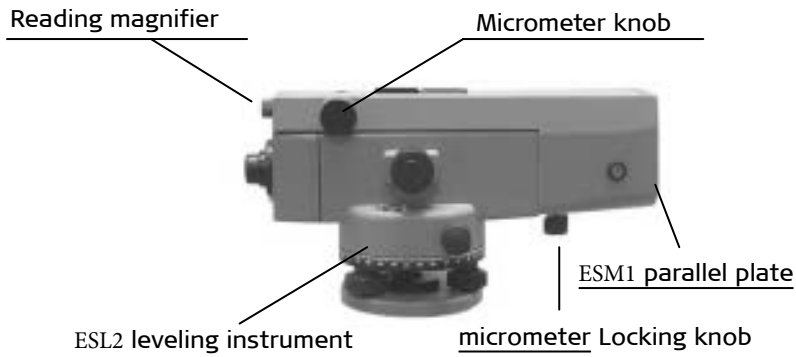

Fig.3
3. Take the nearest whole centimeter value from the graduation below the horizontal cross hair (114cm) and estimate the millimeters within the centimeter interval cut by the cross hair (3mm). The reading in fig.3 is therefore 1.143m. For line leveling of high accuracy, and as a check against gross error, the staff readings of the cross hair and both stadia hairs should be taken (the 3 wire method). The mean of the two stadia readings serves as a check on the middle cross hair reading.
To obtain the distance, the readings of the upper (A1) and lower (A2) stadia hairs are used. The difference between the two readings multiplied by 100 gives the horizontal distance from instrument to the staff (see fig.3)
6.3 Precise Height Measurement with ESM1 (fig.3)